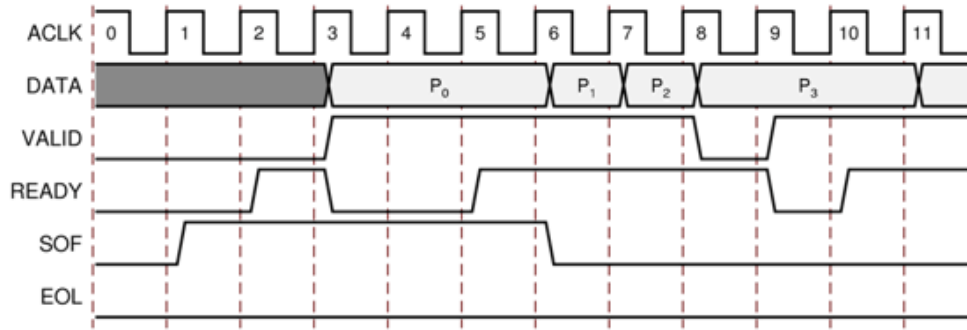

Figure 2-3: Example of READY/VALID Handshake, Start of a New Frame
A valid transfer occurs whenever READY, VALID, ACLKEN, and ARESETn are high at the rising edge of ACLK, as seen in Figure 2-3. During valid transfers, DATA only carries active video data. Blank periods and ancillary data packets are not transferred via the AXI4-Stream video protocol.
The Start-Of-Frame (SOF) signal, physically transmitted over the AXI4-Stream TUSER0 signal, marks the first pixel of a video frame. The SOF pulse is 1 valid transaction wide, and must coincide with the first pixel of the frame, as seen in Figure 2-3. SOF serves as a frame synchronization signal, which allows downstream cores to re-initialize, and detect the first pixel of a frame. The SOF signal may be asserted an arbitrary number of ACLK cycles before the first pixel value is presented on DATA, as long as a VALID is not asserted.
**Note:** When two cores connected via AXI4-Stream interfaces, where only the master or the slave interface has an ACLKEN port, which is not permanently tied high, the two interfaces should be connected via the AXI4-Stream Interconnect or AXI-FIFO cores to avoid data corruption (Figure 2-3).